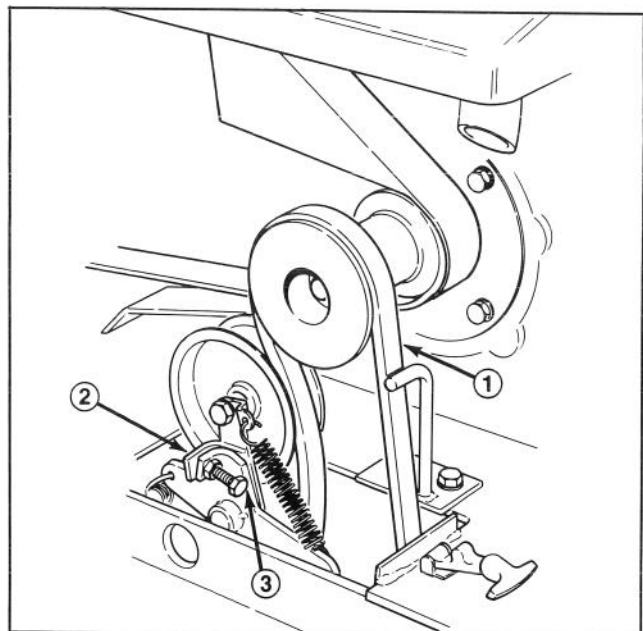

Figure 39
2. The transaxle belt (Fig. 39) is properly adjusted when there is a gap of $1/4$ " between drive take up bracket and end of step bolt, when clutch is engaged.